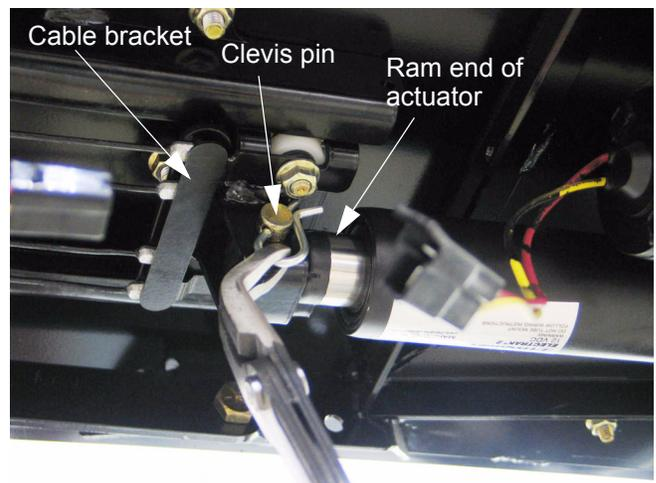

Figure 12.7
- 12.7. Remove the hairpin clip and clevis pin and connecting the rear (ram) of the actuator to the cable bracket. See Figure 12.7.